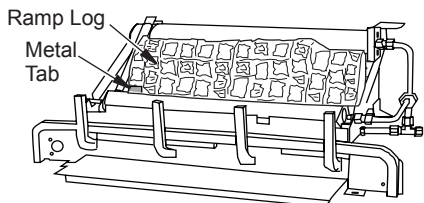

Figure 39 - Installing Fiber Ramp Log
2. Place fiber ramp log in center of chassis as shown in Figure 39, page 23. The fiber ramp log can be identified by the shape and much lighter weight when compared to the other logs. The log must sit flat on the black sheet metal and behind the left metal tab as shown. Make sure the side marked "BOTTOM" is setting down.